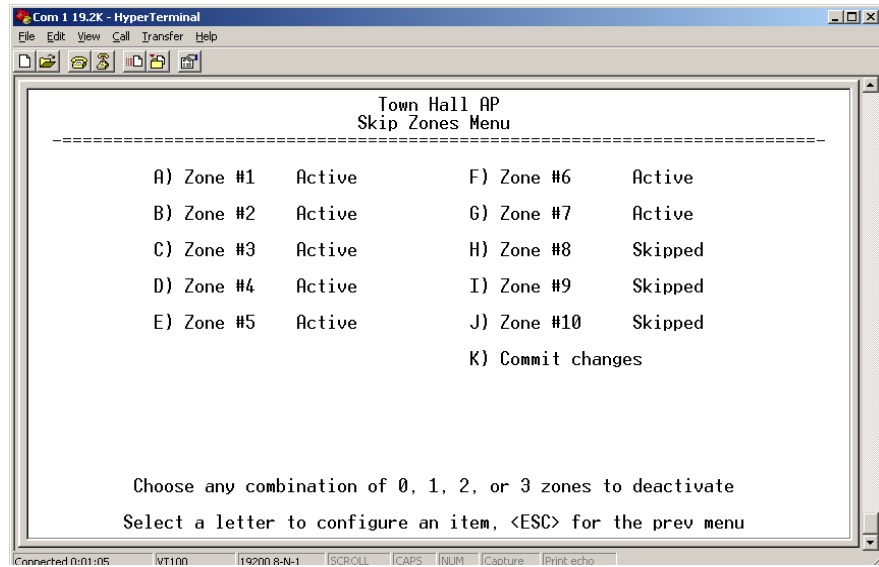

Figure 3-23. Skip Zone Options Submenu
- **Skip Zones** (*Does not apply to all models. Editable at AP Only.*)—This selection brings up a submenu (Figure 3-23) that displays the current utilization of zones. Each zone consists of eight RF channels. In some instances there may be a part of the spectrum used by another system, that results in “continuous” or “persistent” interference to your system. To alleviate this form of interference, the transceiver may be programmed to “block out” affected portions of the spectrum using the Skip Zones Menu.
Figure 3-23 displays the utilization of 10 zones, each having eight RF operating frequencies. Zones can be toggled between **Active** and **Skipped** at Access Point units by first keying in the letter of the zone to be changed, and then pressing the spacebar to toggle between the two options for each zone. Select the **Commit Changes** menu item to implement changes. These changes will be forwarded to all units in the network through the Access Point’s beacon signal.